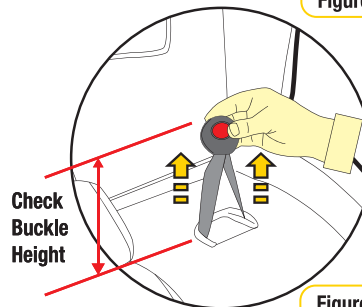

Figure 4
Step 6: Turn seat back to upright position & recheck buckle height (refer Figure 4).